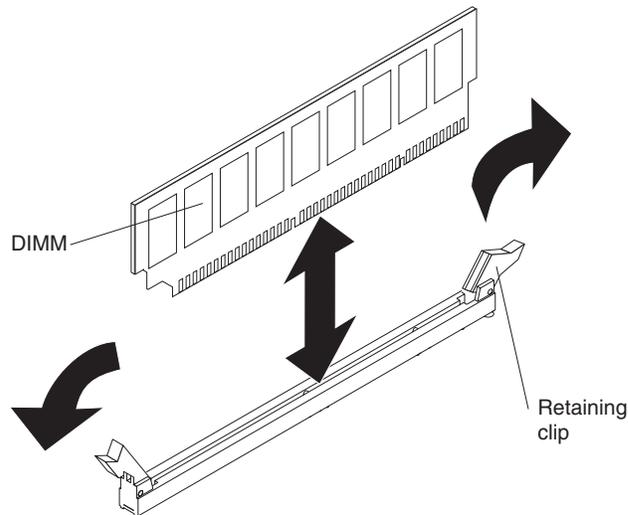

Figure 23. Removing a DIMM
8. Carefully open the retaining clips on each end of the DIMM connector and remove the DIMM (see Figure 23 on page 84).